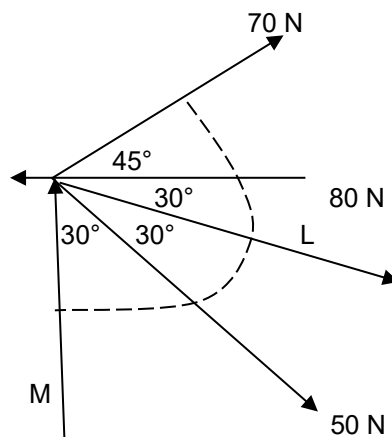

FIGURE 3
3.2 Determine the magnitude of the unknown forces shown in the system of forces in FIGURE 3.